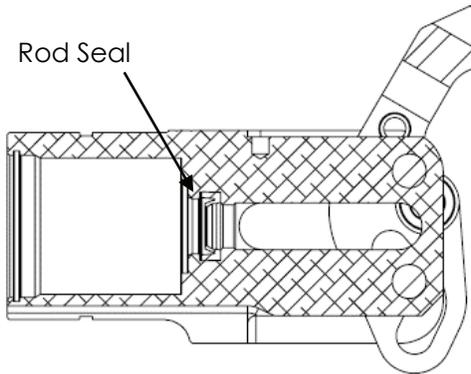
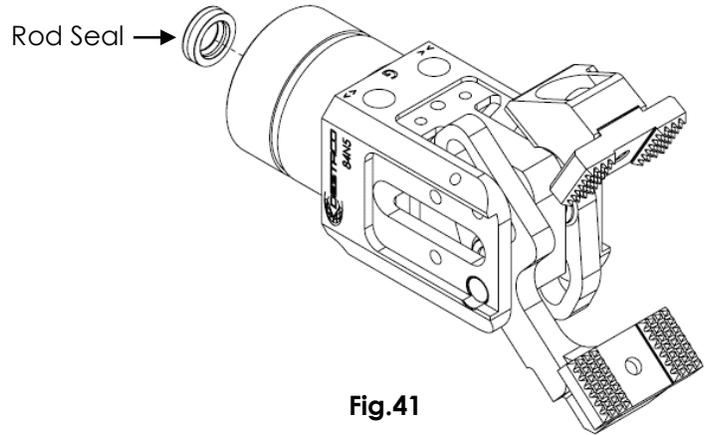

Fig.40
Fig.41
12. Remove the rod seal using a seal removal tool (see Fig.40 & Fig.41).